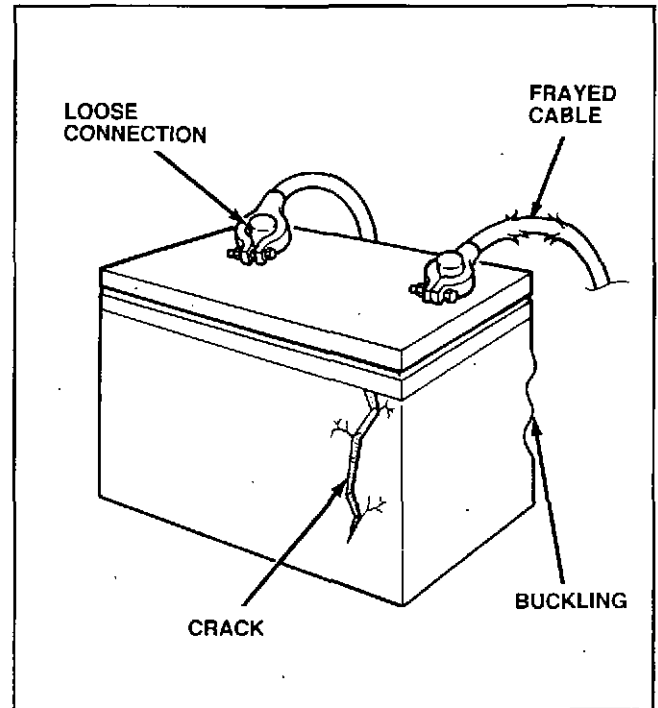

Figure 3-1 Battery Case
- Inspect the battery case and cover (Figure 3-1) for cracks or buckling. These conditions could result from hold-down attachments that are either too tight or too loose, exposure to extreme heat in the engine compartment or freezing of the electrolyte. Acid deposits on the battery cover may indicate leakage, spill-over or gassing due to a high charging rate.